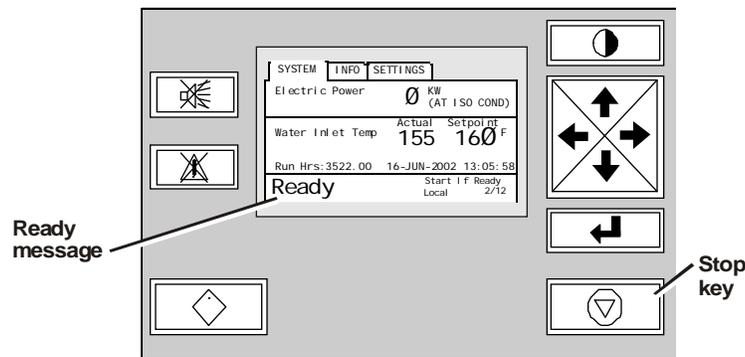

Figure 34. Stop key on control panel
- 1 Press the Stop key (Figure 34).